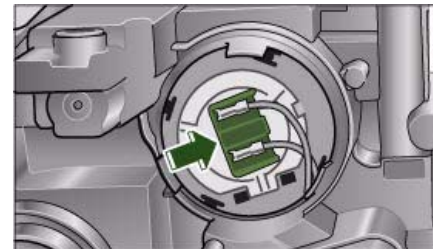

Fig. 291 Bulb holder for main beam headlights
- Press the connector in the direction of the arrow ⇒ fig. 291.